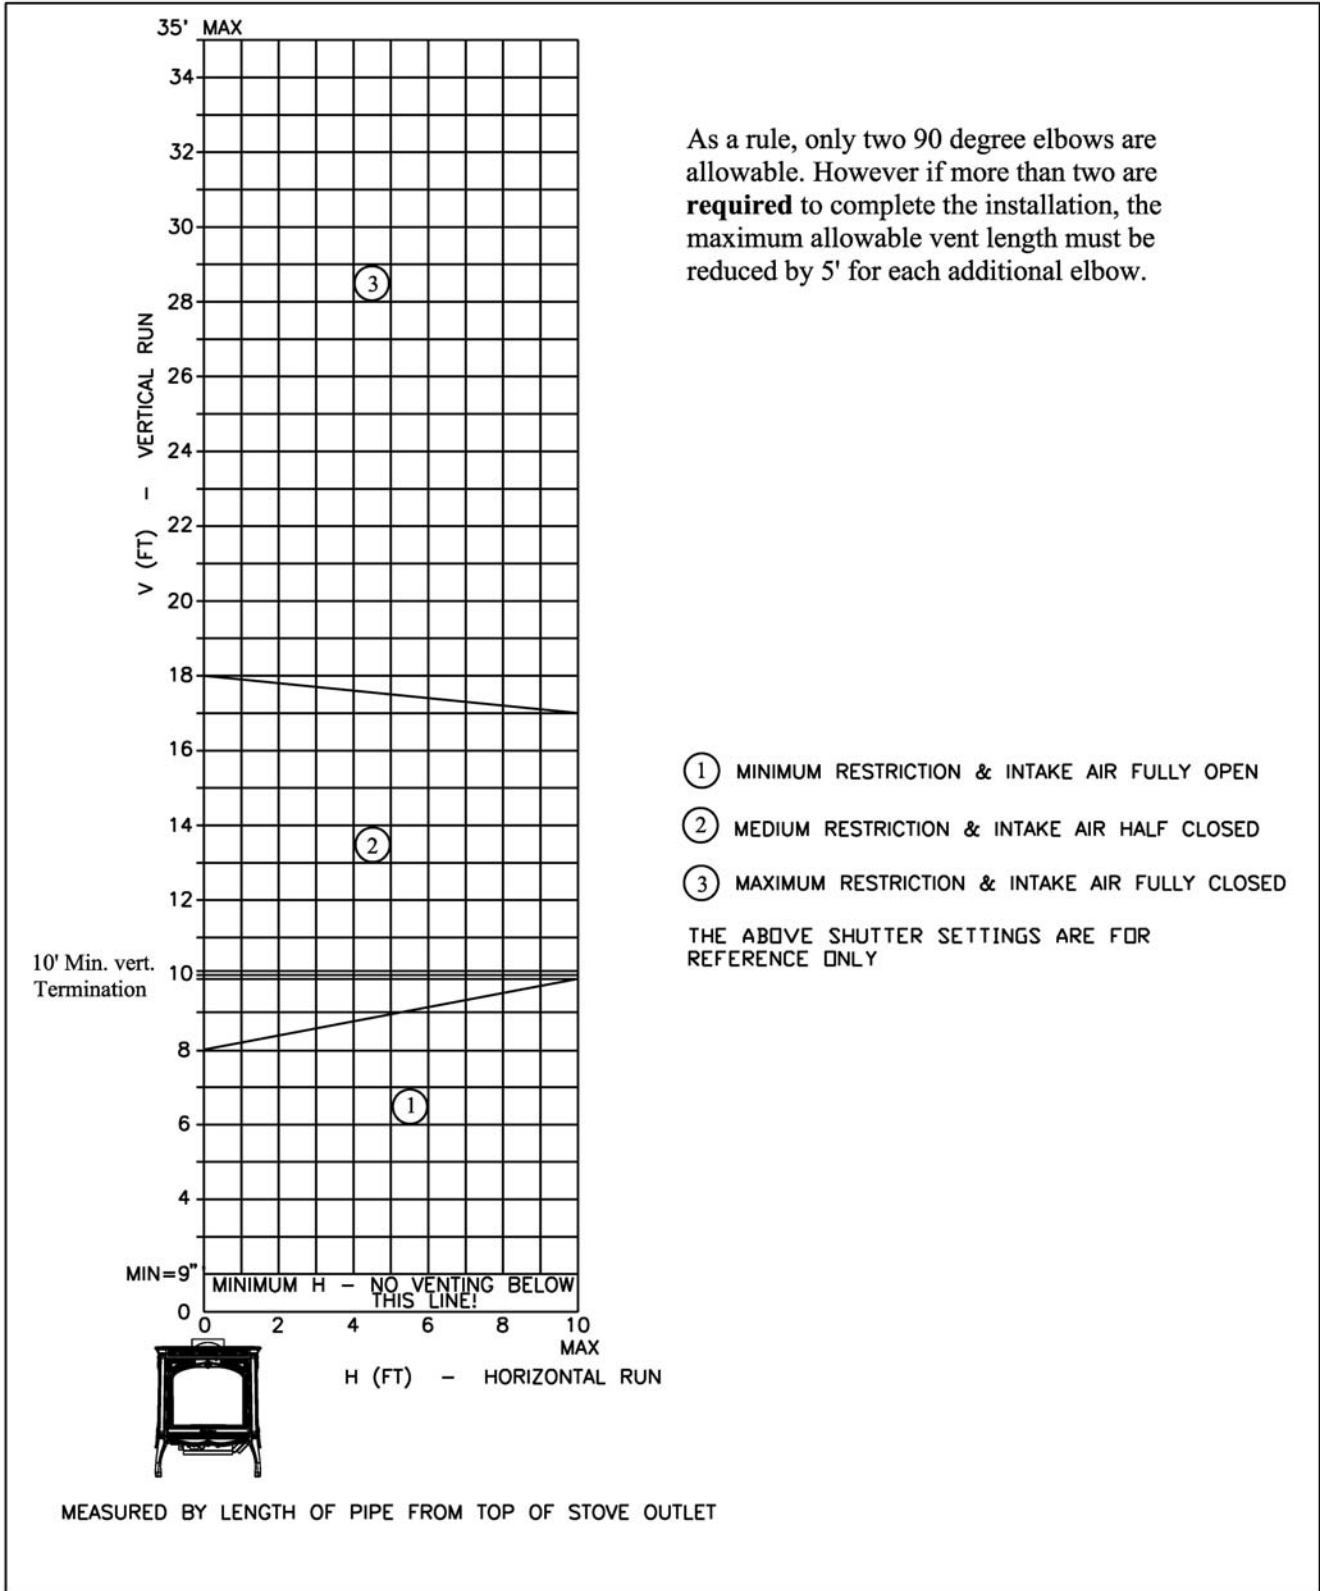

Figure 10: Venting Termination Diagram
Please refer to Figure 10 and Photos 13 & 14 to adjust your vent restrictor accordingly
- 🔥 The termination must fall within the chart in Figure 10.
- 🔥 The termination must fall within the chart shown in Figure 10.